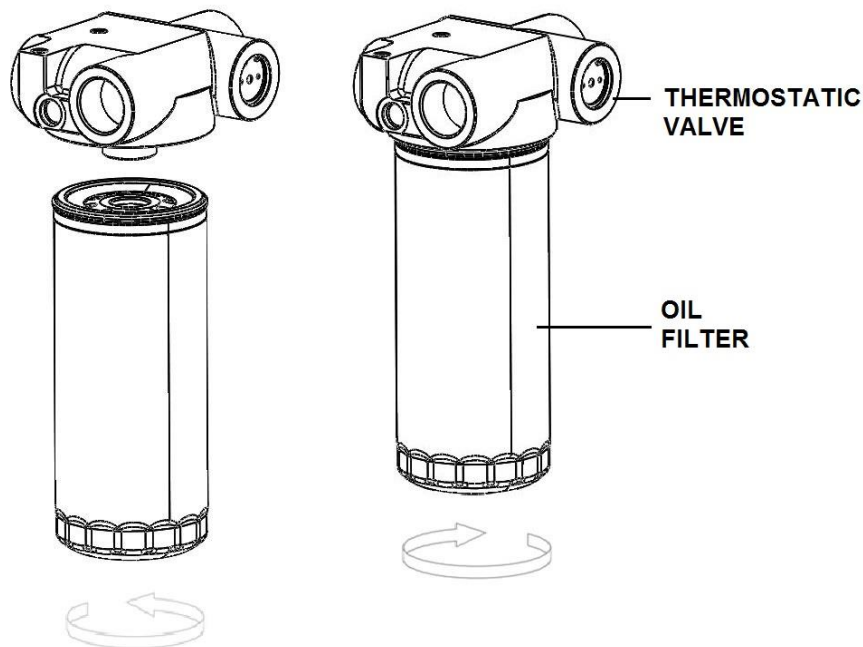

Figure 21 Oil Filter Replacement
- As indicated by the controller, replace the oil filter element (See, Figure 21). If it does not reach 2000 hours within 6 months, replace it once 6 months at any rate.